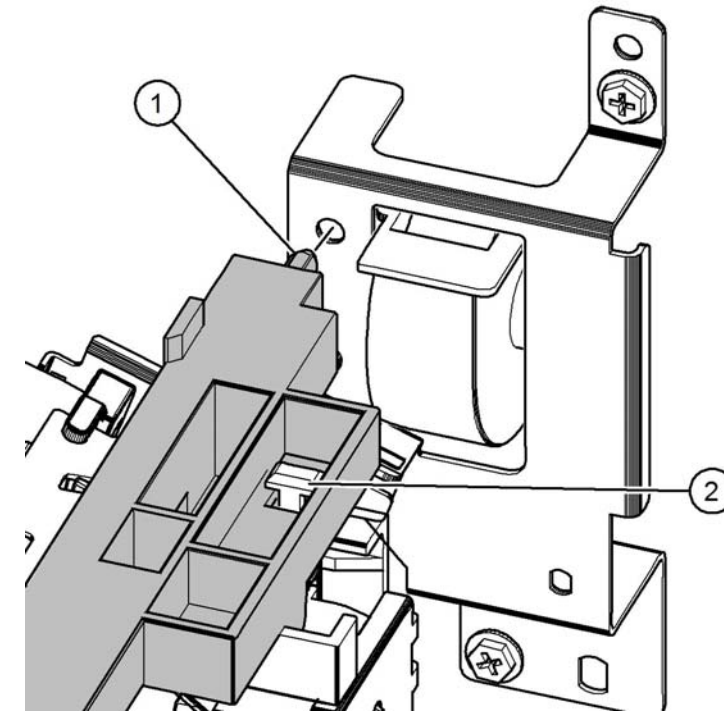

Figure 7 Boss
3. When installing the CRU upper guide assembly, Figure 7.
- a. Align the boss (1) with the hole.
- b. Align the slot (2) in the CRU upper guide assembly with the T-shaped alignment post of the conductor housing and push forward to ensure correct contact between the AC spring coil and the metal contact of the CRU upper guide assembly.